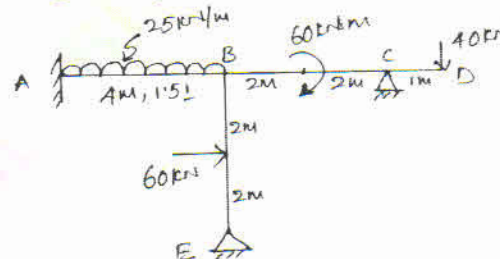

Fig.Q10
- 10 Analyse the frame shown in Fig.Q10 by direct stiffness method. (20 Marks)